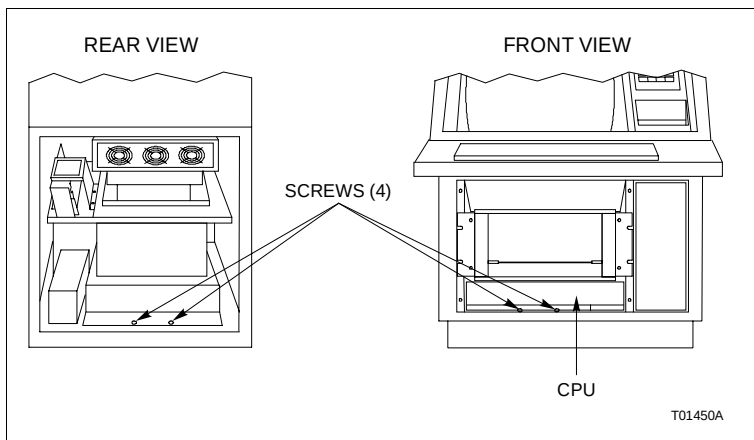

Figure PR27-2. Console Model CPU Removal
- ☐ 3. Remove the two screws that secure the front of the mounting plate to the shelf (Fig. PR27-2).